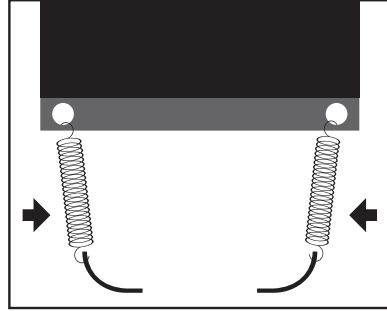

Fig. 25
9. Secure flexible seal with springs to bottom of column (Fig. 25).